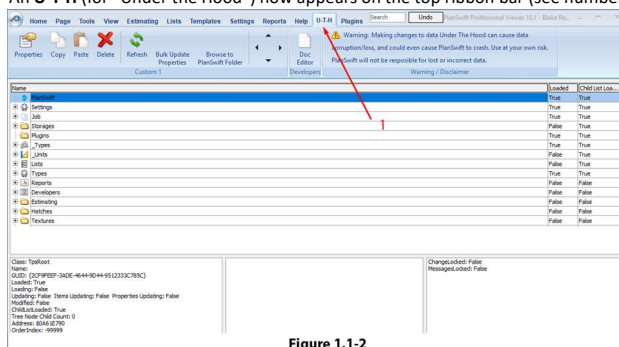

Figure 2
6. An **U-T-H** (for "Under the Hood") now appears on the top ribbon bar (see number #1 of Figure 2). Click on **U-T-H** to display the screen resembling Figure 2.